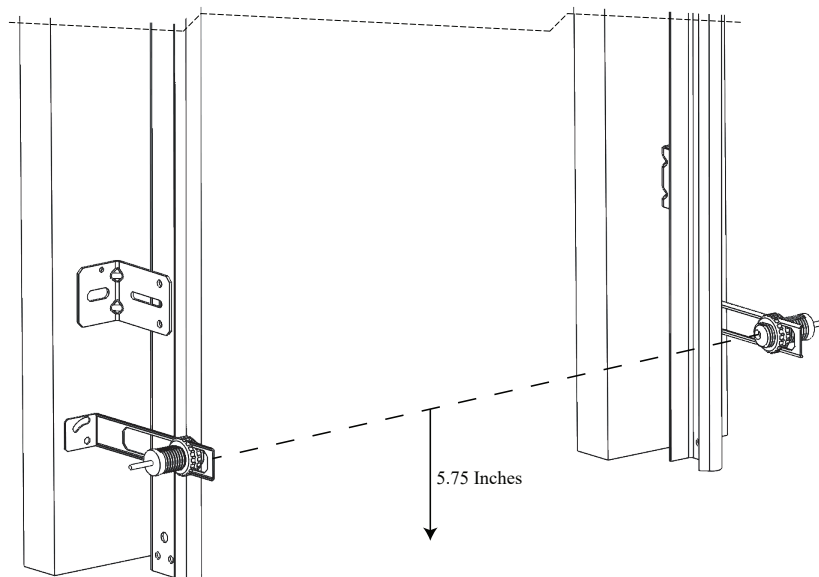

FIGURE 11
5. Using the hardware provided, attach the photo eyes to the "L" brackets as shown in figure 11. Do not over tighten.